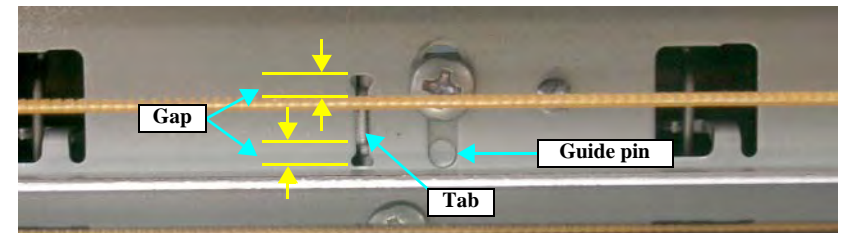

Figure 5-35. Checking the Position of Tab on the Guide Roller LD
- Align the guide pin and tab on the 0 Digit Side Guide Roller LD with the positioning holes on the Main Frame, and tighten the Guide Roller LD (0 Digit Side) with the screws. (See Fig.5-35.)